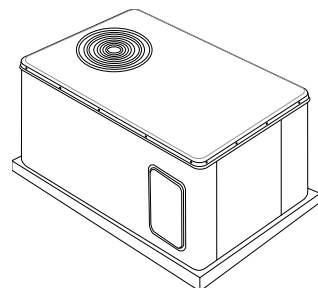

FIGURE 8. Remove screws from the sides of the roof.
- 1) Remove screws from 3 sides of Trane® Precedent® roof over return air opening. (See **FIGURE 8**).